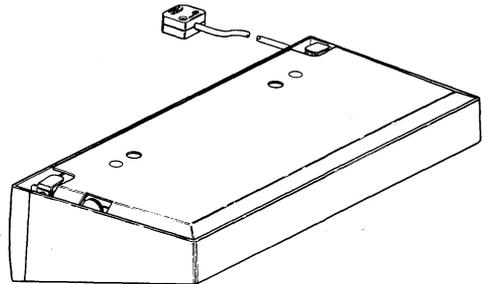

Fig. 3—Keyboard with 40BSE201 Opcon Base Shown Upside Down.
- 2.06 Place the keyboard (opcon) with the base upside down on a smooth surface (cable to the rear). Care should be taken to avoid scratching or marking the keytops. See Fig. 3.